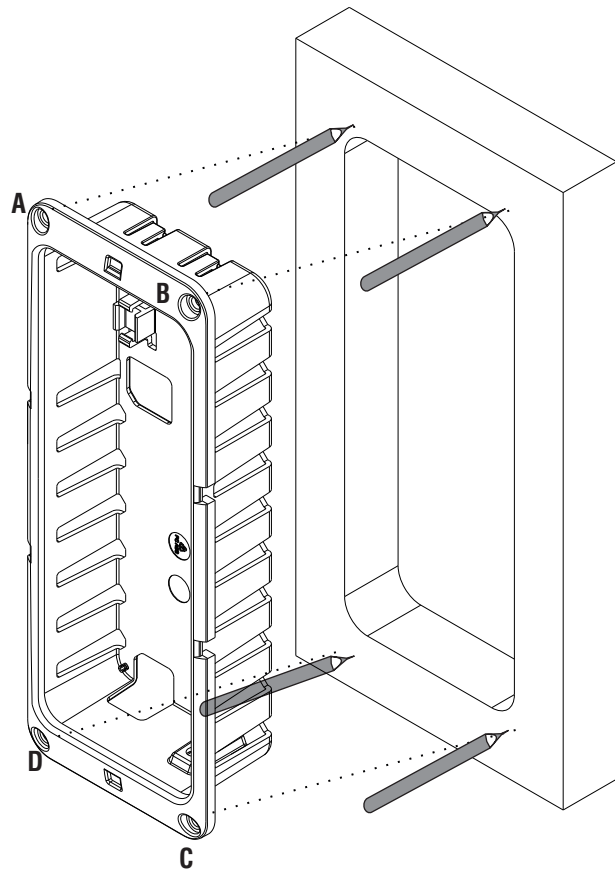
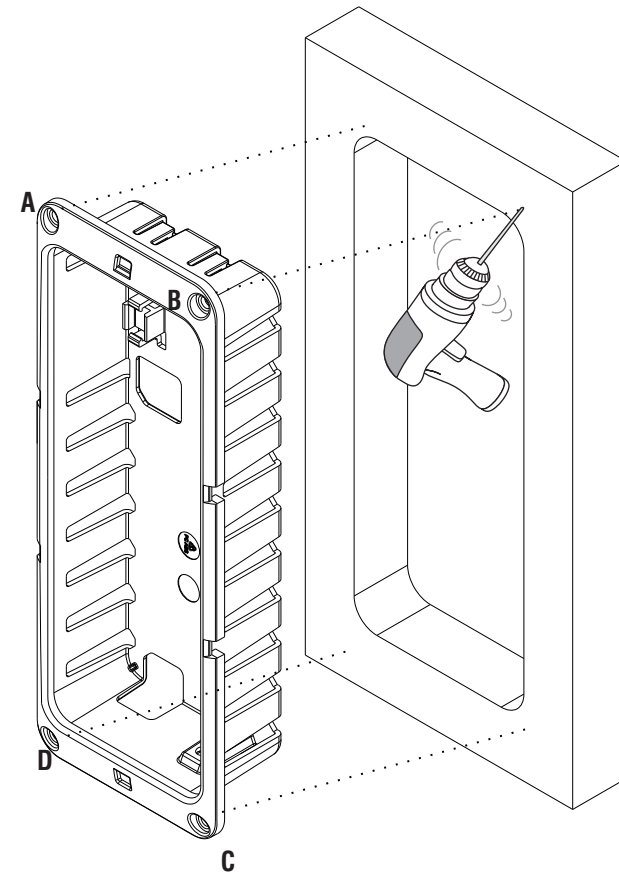

Figure 18
Figure 19
Step 1: Take the Surface Mount Plate provided with the package and trace screw holes A, B, C and D on the surface where COSEC ATOM is to be installed, see **Figure 18**. After tracing drill along the markings as shown in **Figure 19**.